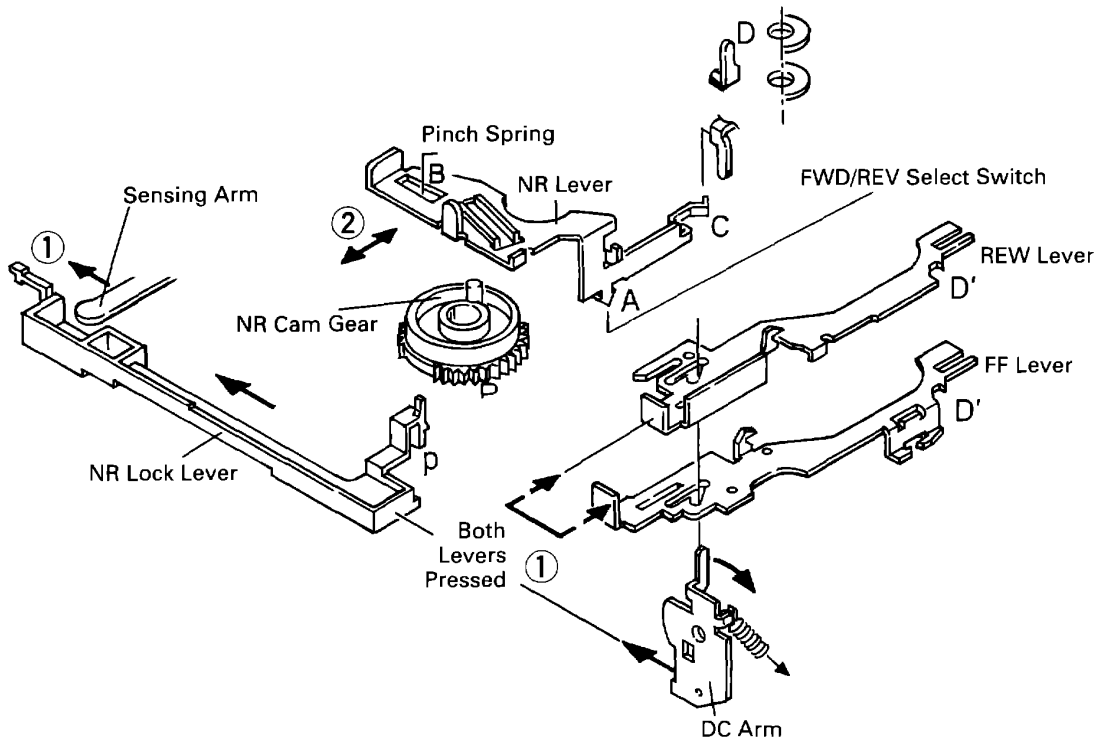

Fig.39
① Triggers for tape direction change
1. When the end of a tape is detected, the Sensing Arm induces the NR Lock Lever to slide as shown in Fig. 39 (Sensing operation).
2. When both the FF and REW Levers are pressed, the DC Arm rotates clockwise and the NR Lock Lever slides in the direction of an arrow (Manual DC operation). (See Fig. 39)
② Tape direction change operation
When a tape comes to its end in FF or REW mode, the Reel Unit stops to rotate and the NR Cam Gear rotates via the sensing motion. This rotation in turn induces the C section of the NR Lever to rotate the Head-Extrusion Cam Gear Lock Arm counterclockwise to release the lock at the D' sections of the FF and REW Levers. (See Fig. 39) At the same time, as it also releases the lock of the Head-Extrusion Cam Gear, the Head Base is put into the Play mode from the FF/REW position via the release position. When the tape reaches its end in the Play mode, the tape direction changes to perform reverse play operation.